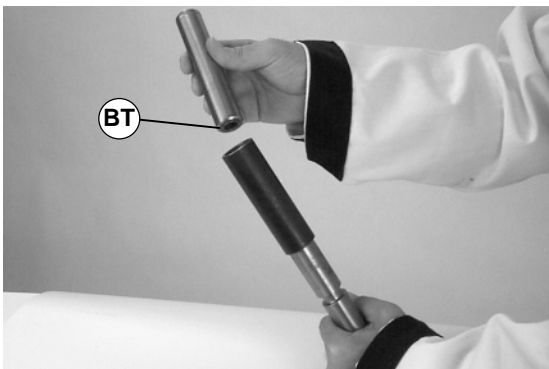

Figure 51
4. Place open end of shaft (BT of Figure 51) into sleeve.